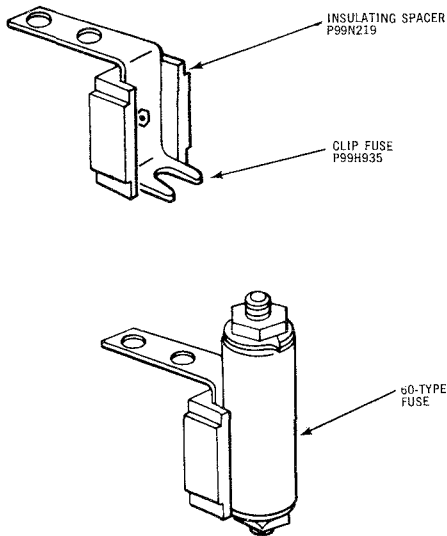

Fig. 10 - 60 Type Fuse, Fuse Clip and Spacer
3.07 *Sneak Current Fuses (60-type)* (Fig.10) are required when specified on the service order or by other local instructions.